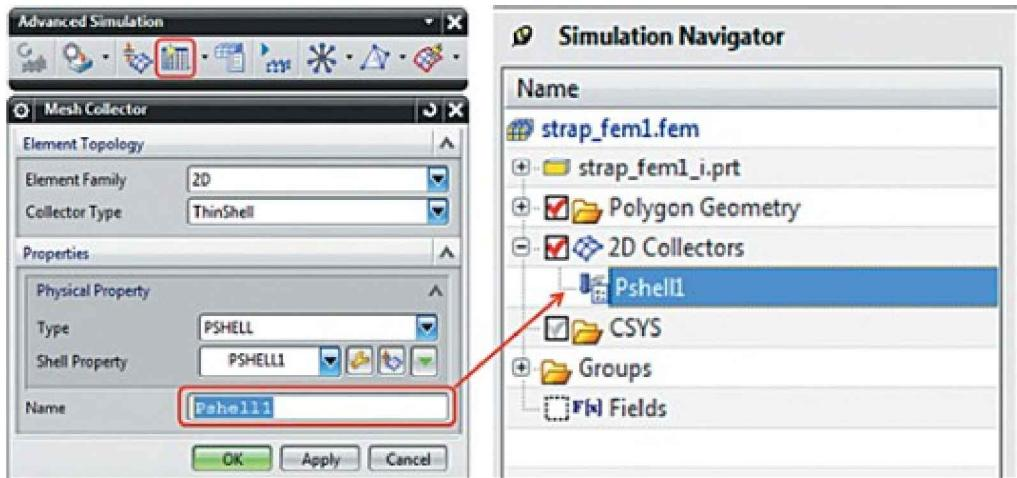

Figure 2.8. Creating a mesh collector
3.4. The next step involves creating a mesh collector. Use the **Mesh collector** command of the NX Advanced Simulation toolbar and specify the following (Figure 2.8):
Note that the model tree in the **Simulation Navigator** tab now contains a *2D Collectors* node with a *Pshell1* node (Figure 2.8).